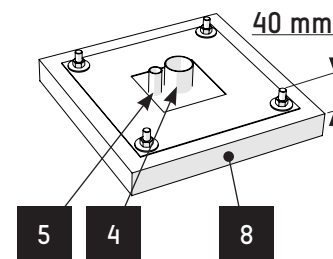

Fig. 8 - Protruding anchoring pins
- Attach the anchoring rods to the fixing frame using a flat washer (6b) and a nut (7b) on each netting, protruding by 40mm (Fig. 8). Tighten the nuts.
- Lay a PVC tube (4) with a minimum diameter of 60mm for the power and control cables (Fig. 8). If necessary, lay a PVC tube (5) with a diameter of 25mm to for the cables of the detection loops (optional). Cables must protrude 1 metre from the concrete base.
- Prepare a concrete base (8) in which the fixing frame will be centred. The fixing frame must be flush with the surface of the concrete base and perfectly horizontal (Fig. 8).
6. Lift the arm, if necessary by disengaging the brake: lever (18).
7. Replace the lower fastening pin of the spring assembly and lock it using its pin (57).
8. Adjust the verticality of the arm by tightening or loosening the upper bumper (10), then tighten the lock nut (54).
9. Fasten and, where necessary, tighten the bracing wire (illustration on the folding fence Fig. 8).